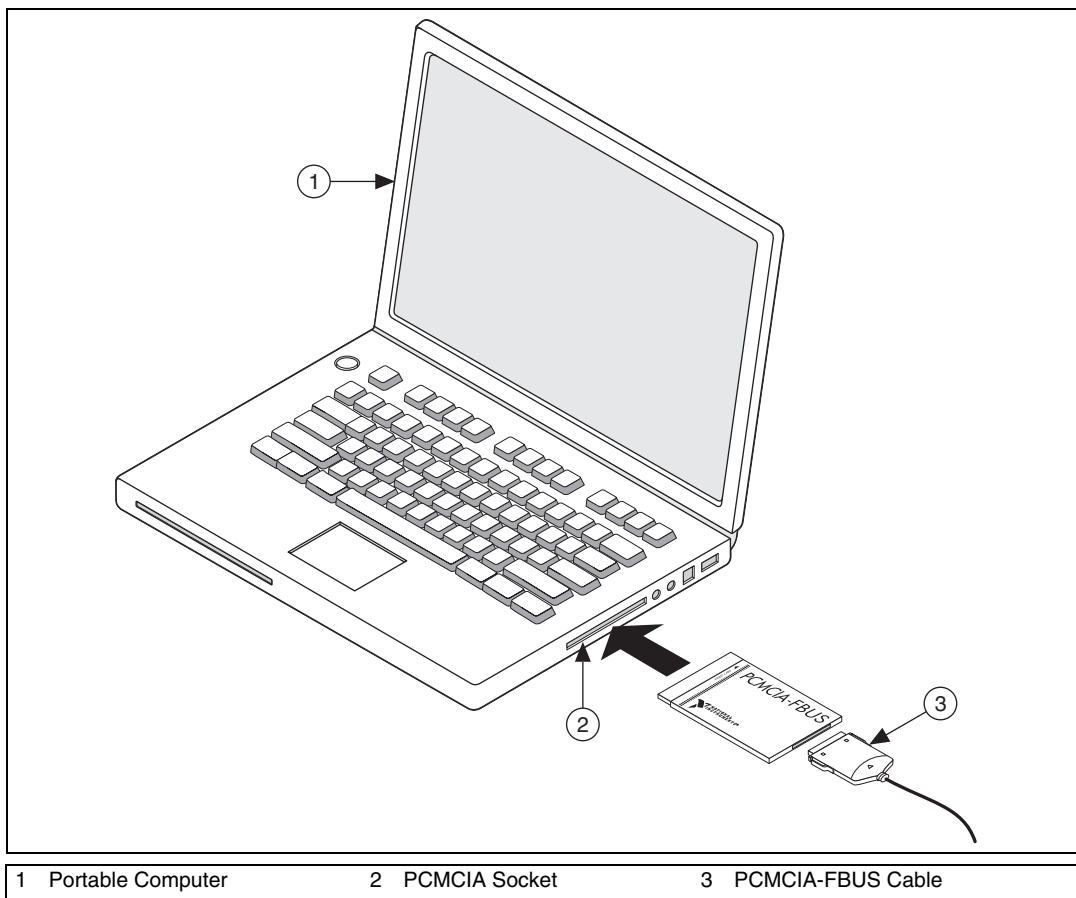

Figure 2-2. Inserting the PCMCIA-FBUS Card
2. Insert the card into a free PCMCIA (or Cardbus) socket. The card has no jumpers or switches to set. Figure 2-2 shows how to insert the PCMCIA-FBUS and how to connect the PCMCIA-FBUS cable and connector to the PCMCIA-FBUS card. However, the PCMCIA-FBUS/2 card has two connectors. Refer to Chapter 3, *Connector and Cabling*, for more information about these two connectors.